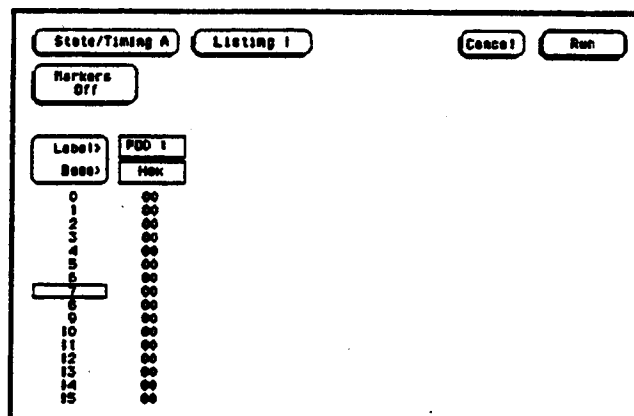

Figure 3-15. Listing Screen
6. Touch Run. The State Listing screen will be displayed and should show all 0's for the channels under test. See figure 3-15.